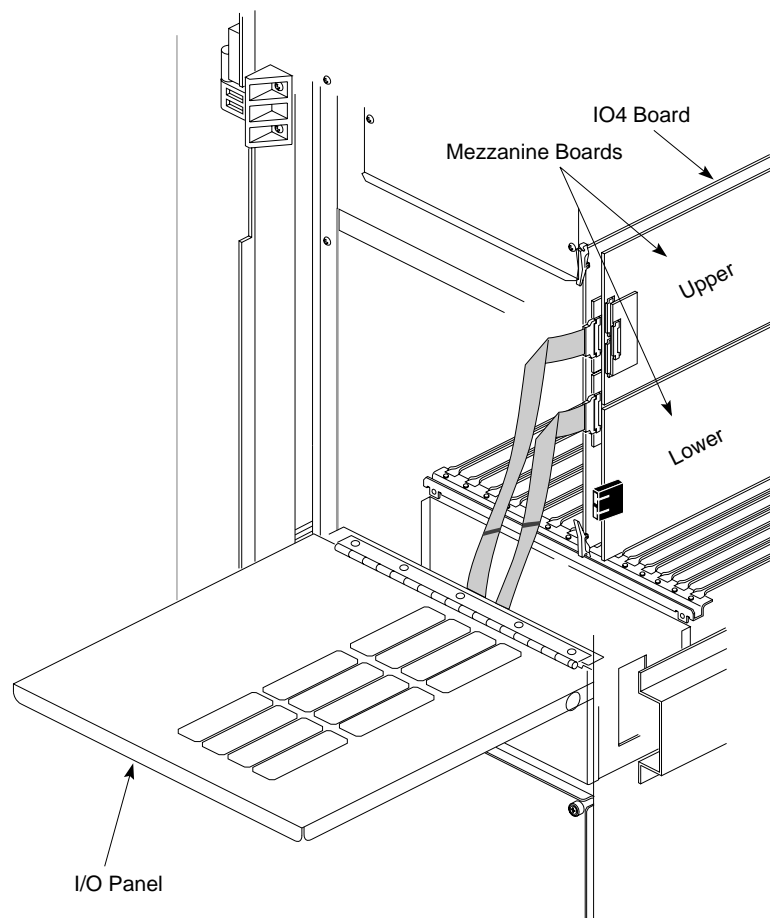

Figure 2-10 Installed IO4 Board
6. Reinstall the IO4 board into the chassis, as illustrated in Figure 2-10. Push the board firmly into the backplane. If the board has a VCAM board, the VCAM board must also seat into the backplane.